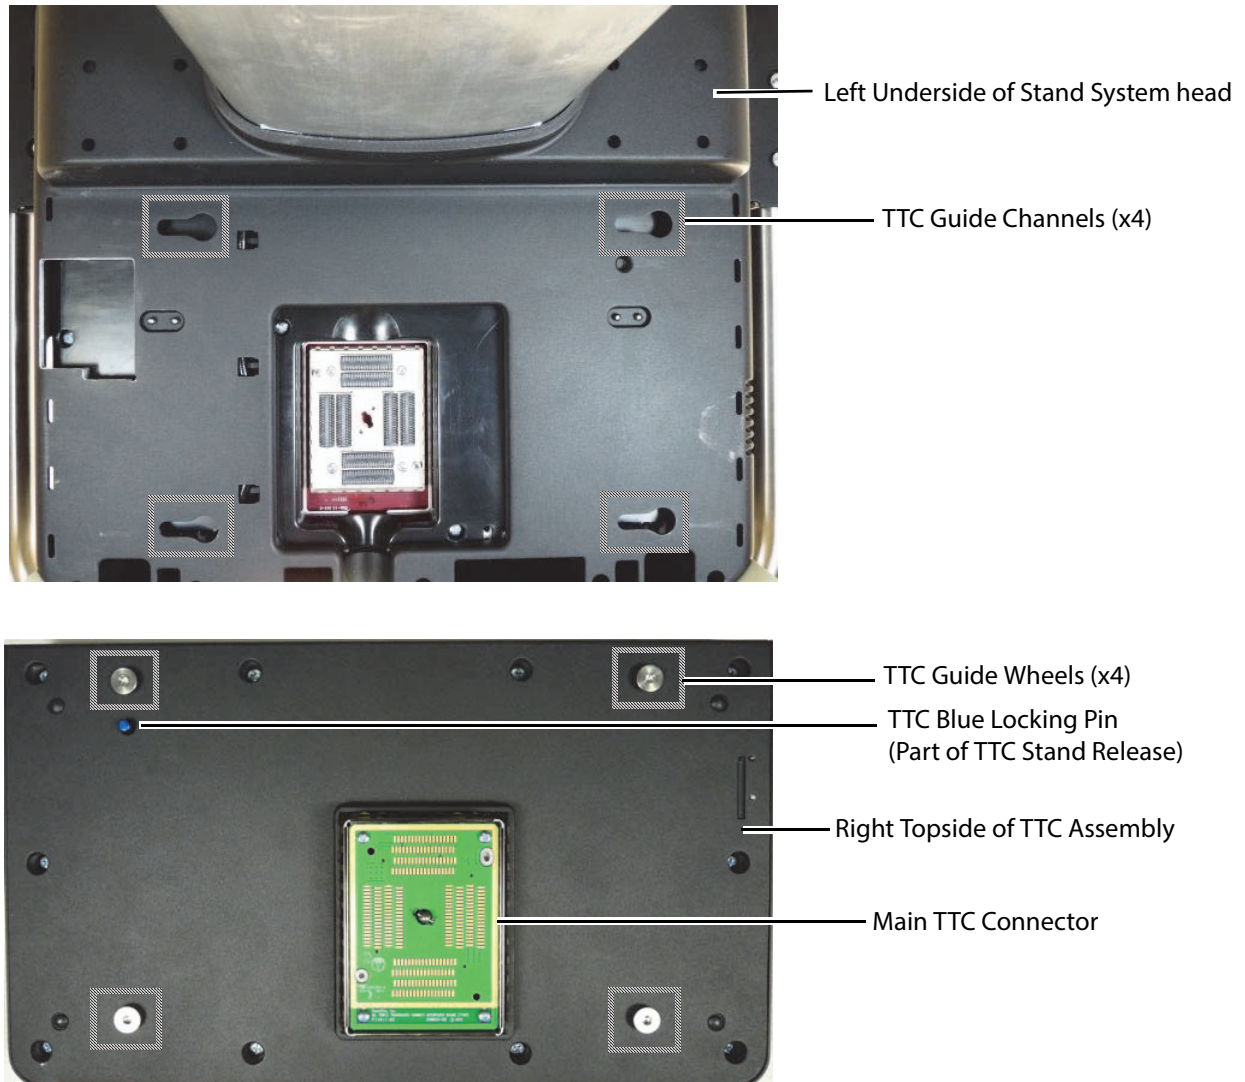

Figure 6.17 TTC Mounting Channels
- 2 Position the TTC approximately 3/4" farther to the left than the left stand edge to allow the TTC stainless steel guide wheels to enter the stand TTC guide channels. Please refer to Figure 6.17 on page 47 for the location for these attachment points.